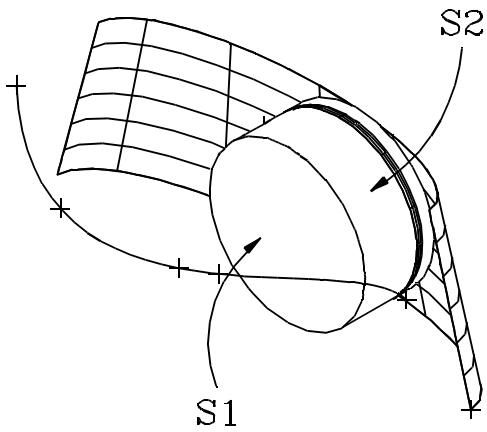

Figure 22:
50. Click on S1 (the front plane) and S2 (the cylinder), as shown in Figure 22.